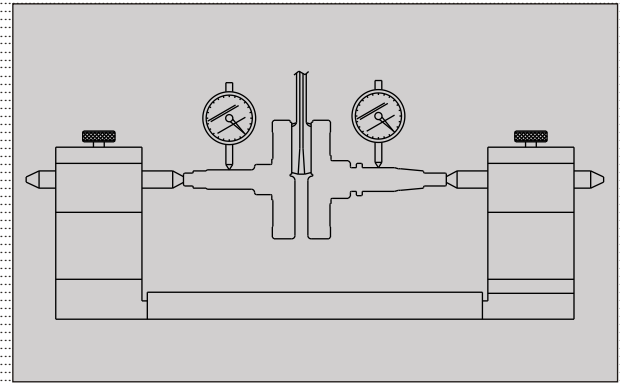

Fig. 3.154
- Support crankshaft assembly with 'V' blocks of anvil. Mount the dial indicator at positions shown to read the runout. Runout should be within the service limit. (Fig. 3.154)